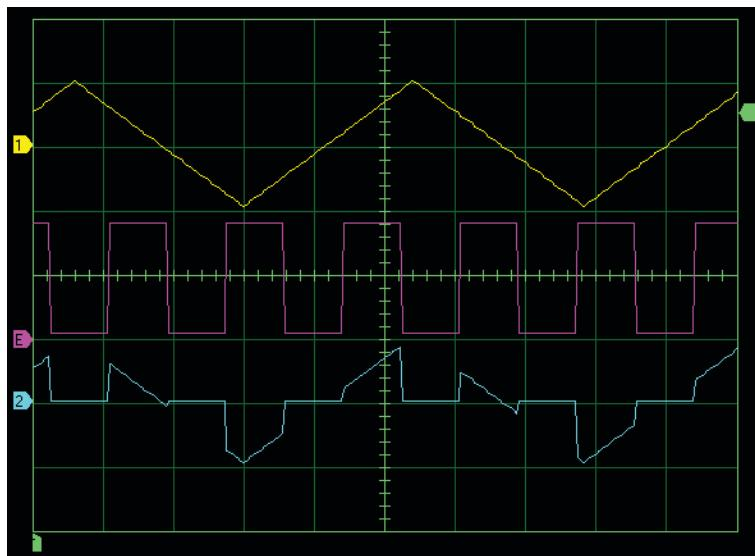

Figure 2-9. Message signal, 3 kHz sampling signal and PAM signal.
11. Decrease the frequency of the sampling signal to 3 kHz. Figure 2-9 shows an example of settings and what you should observe.